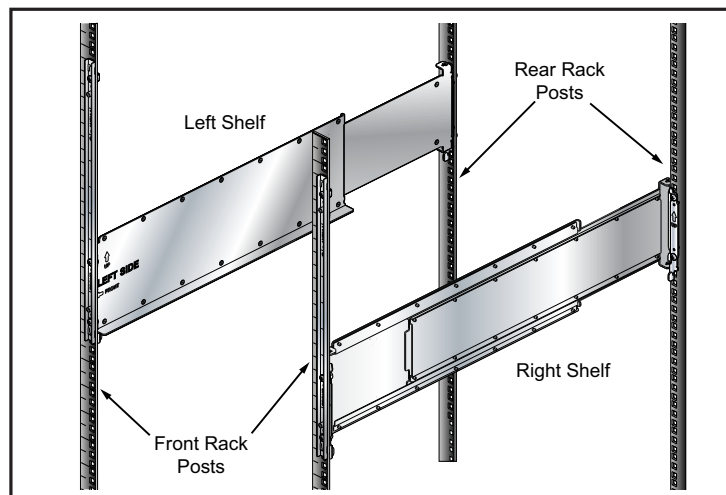

Figure 3-8: Both Switch Shelves Installed
Step 6 Install the right shelf on the right front and right rear rack posts by repeating step 4 and step 5 to obtain the rack configuration shown in Figure 3-8.